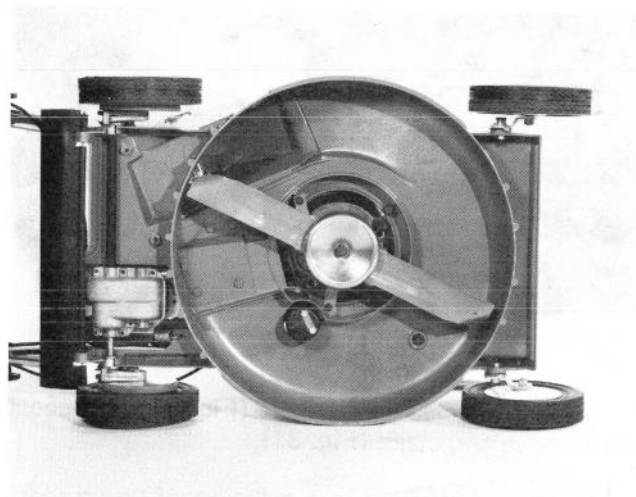

Figure 36
2. Tip mower on its left side (Fig. 36).